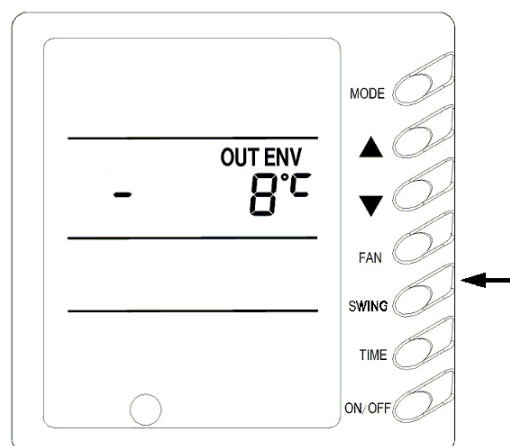

Fig.14
7) Outdoor Ambient Temp Display (Fig.14)